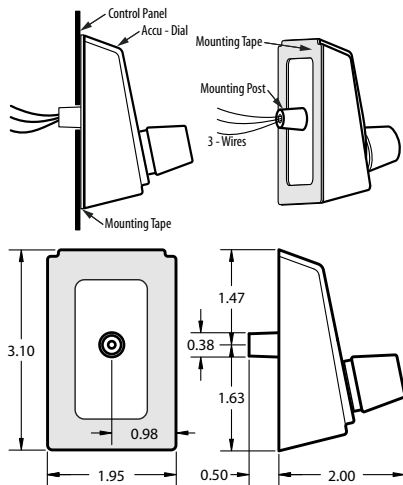

Figure 2: Accu-Dial Mounting Features and Dimensions
The Accu-Dial mounts to the surface of a control panel, using supplied double-sided tape. The three potentiometer wires exit the back of the Accu-Dial through a mounting post. See Figure 2. The mounting post inserts into a 3/8-inch diameter hole in a control panel.
4. Remove the backing from the mounting tape. See Figure 2.
See Figure 2. Connect the Accu-Dial's two power wires and one wiper wire to the process driver's three pot supply terminals, as follows: